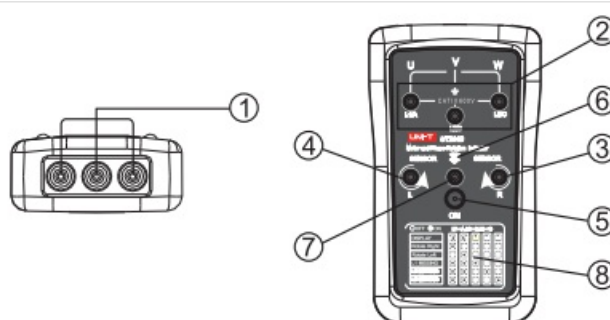

Figure 1
See the instrument indicator, button and jack as shown in Figure 1: Graphical description
- Place UT261B towards the motor, in parallel with motor shaft. The bottom of the instrument should face the shaft (namely, UT261B is located in a direction contrary to that of the motor). Refer to Figure 1 for motor location indicator.